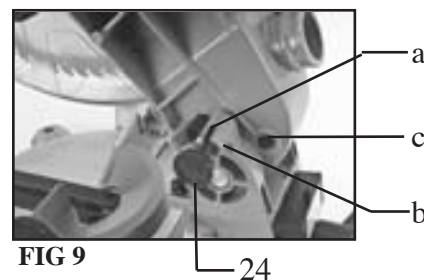

FIG 9
2. Pull back on locking knob (24) outwards from its parked "unlock" (b) position.
5. The locking shaft should insert into locking hole to lock the cutting head. (FIG 9)
4. Slowly raise the cutting head into the work position. (FIG 9)